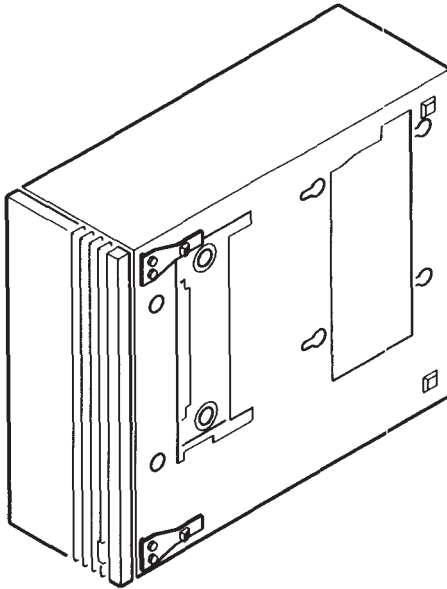

Figure 8-3. Removing the Cover Plate
- b. Remove the cover plate on the front bottom of the HP 98700 and place it in the parking position provided (see Figure 8-3).